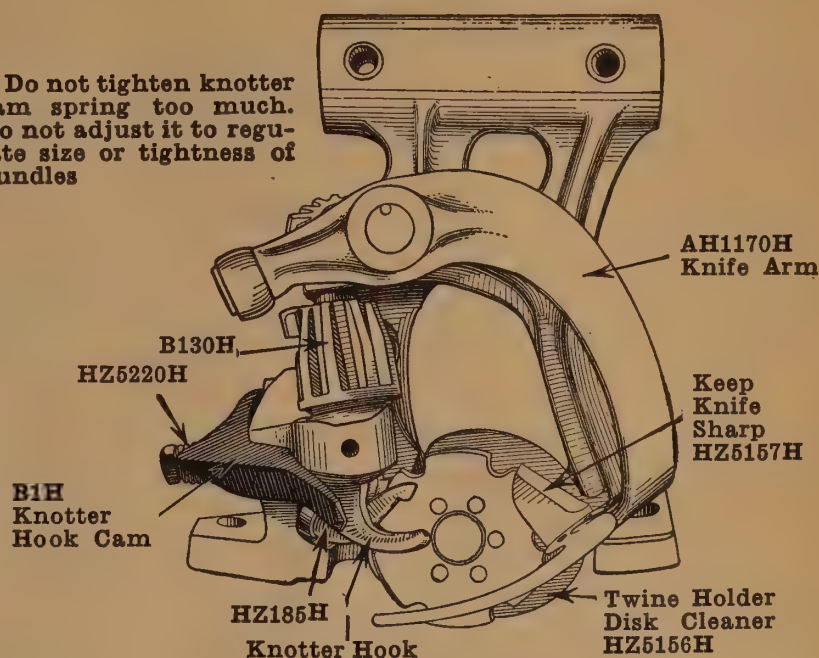

Fig. 64
22. **KNOTTER**: (Figs. 64 and 65.) No adjustments should be made unless absolutely sure that trouble lies with the knotter. **Adjustments should be made with caution.**